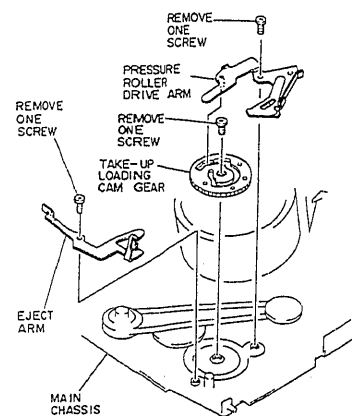

Fig. 2-57
- 1) Remove one (1) screw and remove the pressure roller drive arm from the main chassis. (See Fig. 2-57)
- (2) Eject Arm
- 2) Remove one (1) screw and remove the eject arm from the main chassis. (See Fig. 2-57)
- (3) Take-up Loading Cam Gear
- 2) Remove one (1) screw and remove the take-up loading cam gear from the main chassis. (See Fig. 2-57)